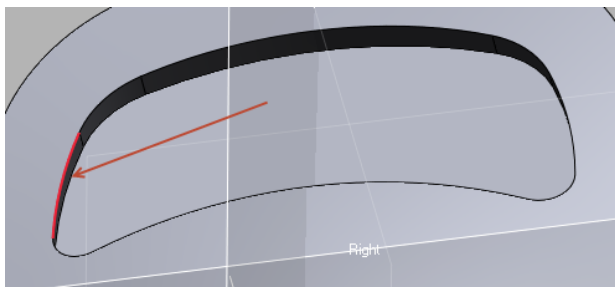

Figure 171
- Create a **Constant Fillet** by selecting the edge shown in **Figure 171**.